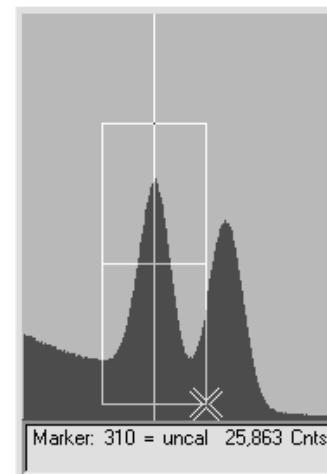

Figure 8. The Rubber Rectangle's Crosshairs.
2. Drag the mouse diagonally across the area of interest. A reverse-color rectangle bisected by the marker line is drawn. Note that when drawing a rubber rectangle, the marker line combines with a horizontal line inside the rectangle to form crosshairs (Fig. 8). They make it easy to select the center channel in the area of interest — this might be the center of an ROI to be marked or unmarked, a portion of the spectrum to be summed, or a peak for the **Peak Info** function.